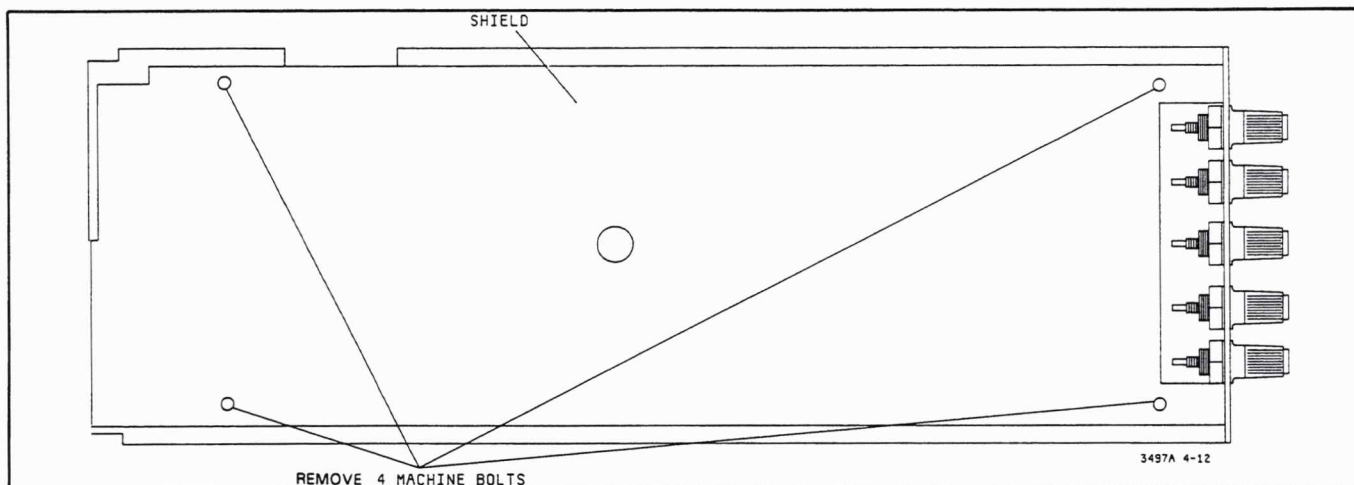

Figure 4-12. Removing Voltmeter Shield
e. On the inguard assembly, locate the voltmeter board. Then locate the metal shield on the board, as shown in Figure 4-12. Remove the four machine bolts located near the corners of the shield and then remove the shield, as shown in the figure.